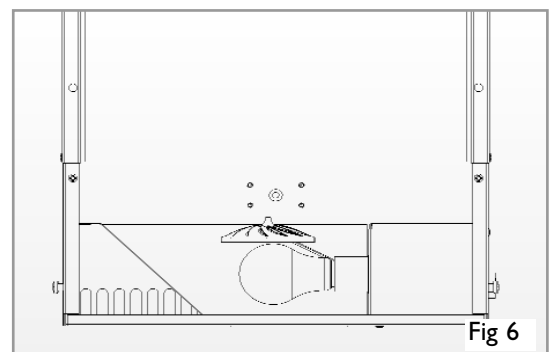

Fig 6
3. The bulb has a conventional bayonet fitting. Remove and replace with the new bulb (see Fig 6 opposite).